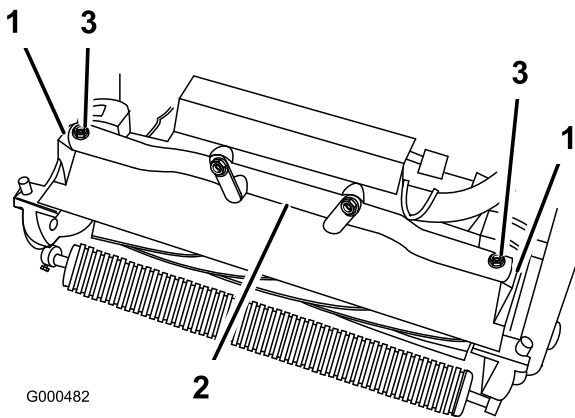

Figure 14
4. Remove (2) bolts securing cutting unit pivot arms to traction unit frame tube (Figure 14).
5. Rotate pivot arms forward (Figure 14) and rest traction unit on restrained kickstand.